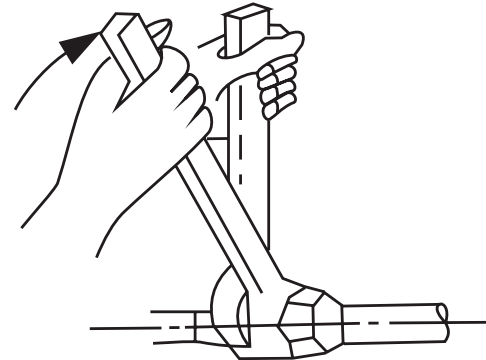

Fig. 7.8
4. While firmly gripping the nut on the indoor unit tubing with the spanner, use a torque wrench to tighten the flare nut (Refer to Fig. 7.8 below). Continue tightening the flare nut until the specified torque rating in the table below (based on pipe size) is achieved. Then, loosen the flare nut slightly and tighten it again to the specified torque rating.